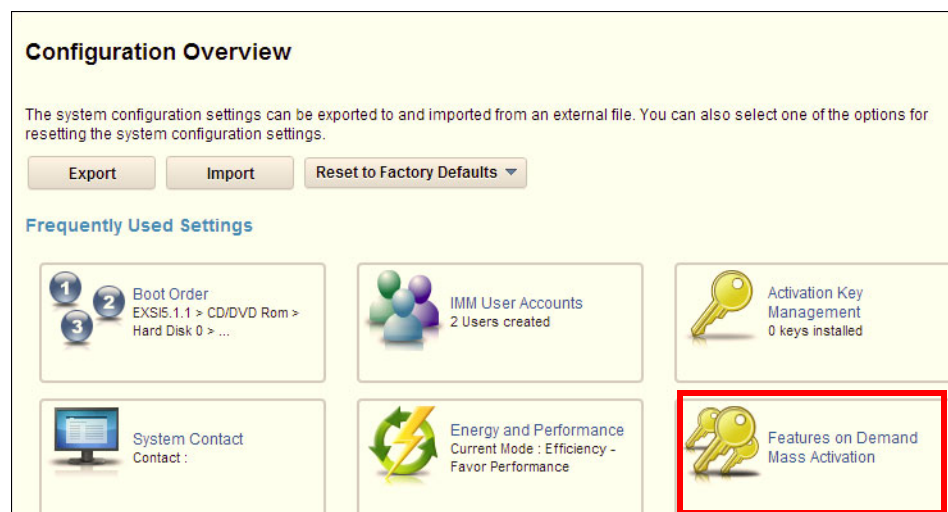

Figure 3-50 Features on Demand Mass Activation menu
1. Under the Configuration tab, click **Features on Demand Mass Activation**, as shown in Figure 3-50.